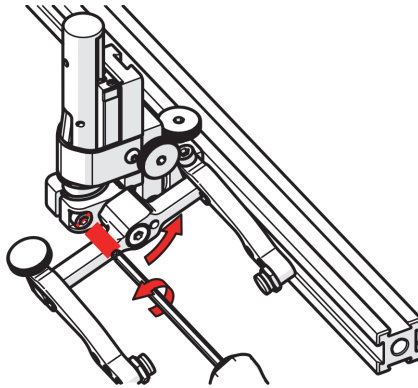

Figure 2-81 Loosen 3 mm screw
2. Using the supplied 3 mm hex driver loosen the transverse adjustment screw and rotate the yoke around the vertical shaft, to achieve the desired angle (see Figure 2-81 on page 101).